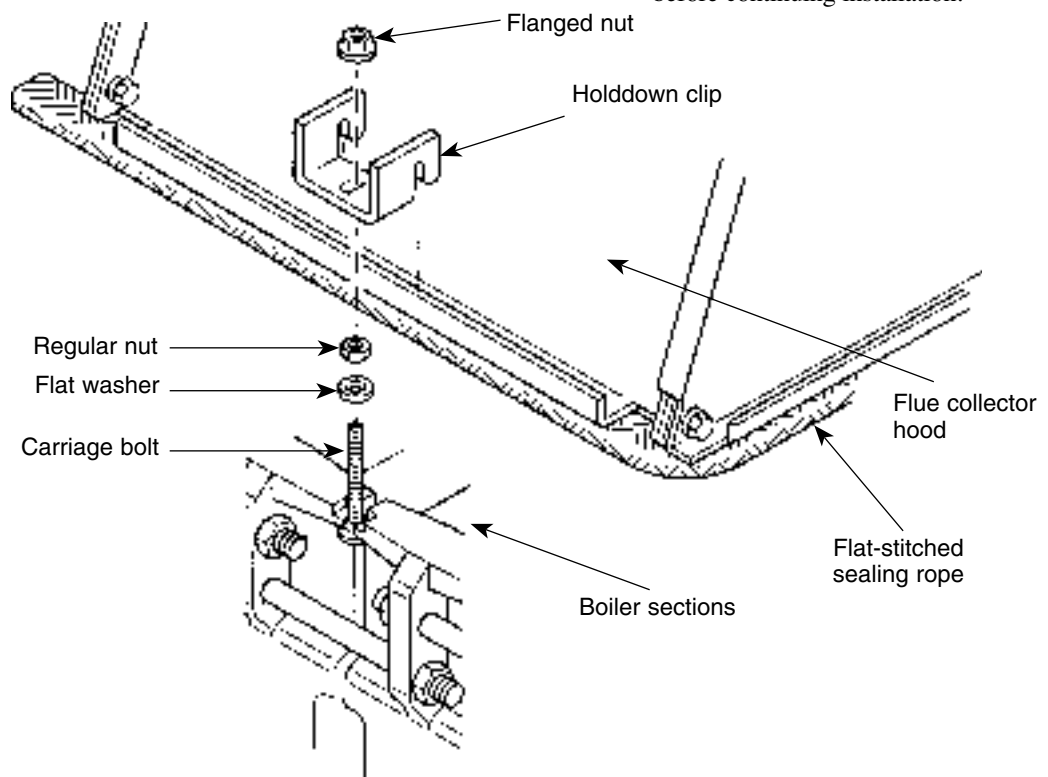

Figure 10 Holddown Clip Installation
2. Install 5/16" x 2" carriage bolts, flat washers and regular nuts on both sides of boiler starting at back section joint, continuing at each joint. See Figure 10. Tighten nuts.
- a. Slide holddown clip over carriage bolt and flange on hood. Finger-tighten 5/16" flanged nut on carriage bolt. See Figure 10. Repeat for each clip. Where hood joint interferes with clip installation, do not install clip.